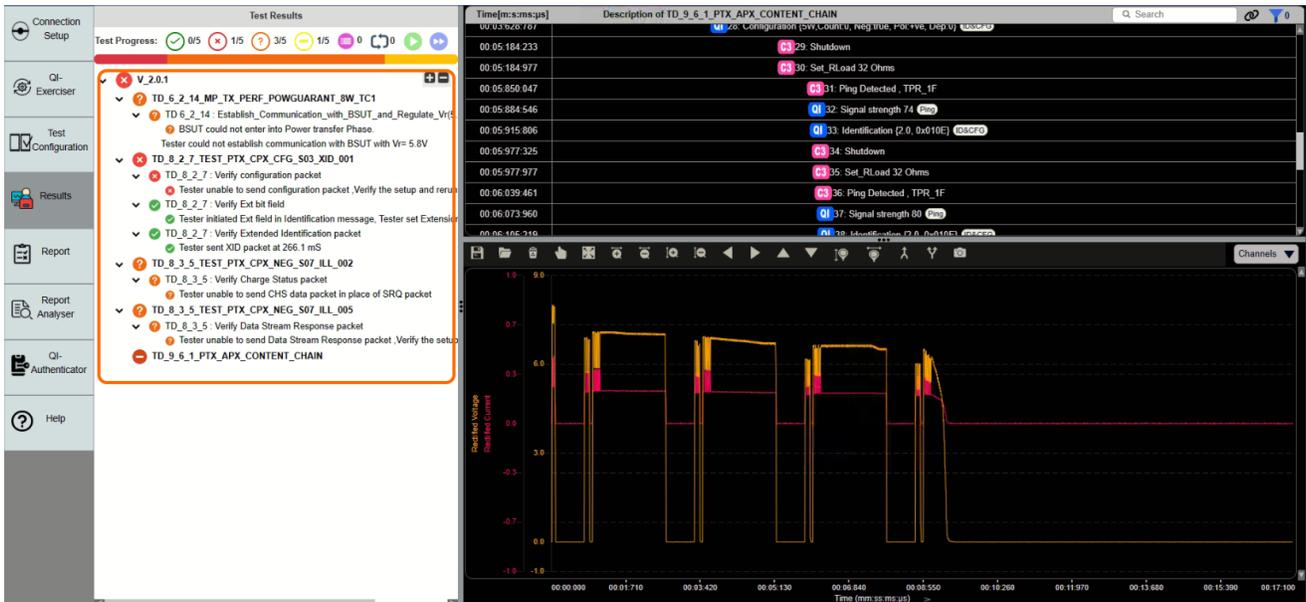

FIGURE 8.37: UPLOAD PROJECT— #4
- Click on the **Upload** button and the selected project file will be loaded as shown in the Figure 8.37 example below. The user can now proceed to access/configure the project.